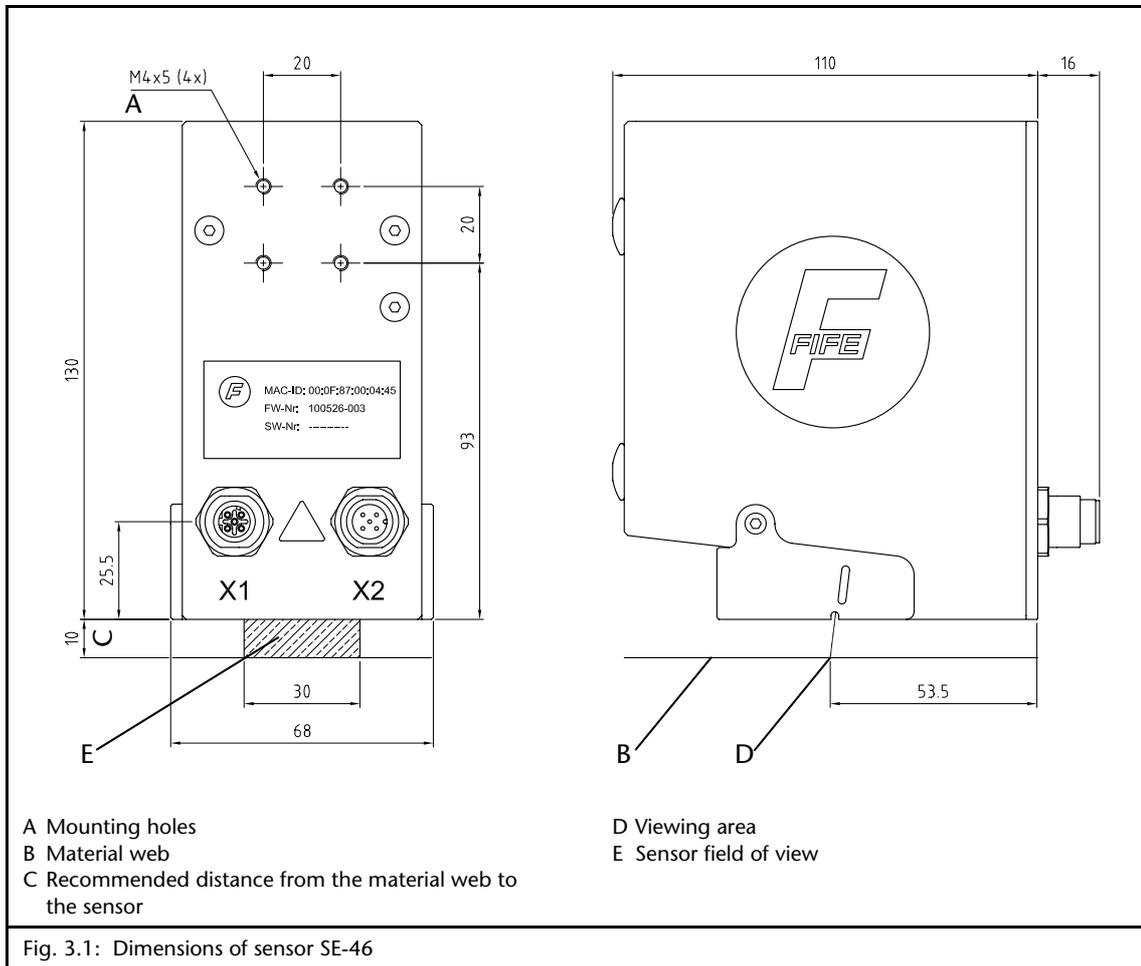

Fig. 3.1: Dimensions of sensor SE-46
*Fig 3.1* shows the dimensions of sensor SE-46.
- The SE-46 sensor is normally mounted at a distance of 10mm from the material web (see C in *Fig 3.1*).
To assist in mounting the SE-46 sensor, holes have been drilled in the housing (see A in Fig 3.1). Together with various sensor bracket, this provides a wide range of installation options.